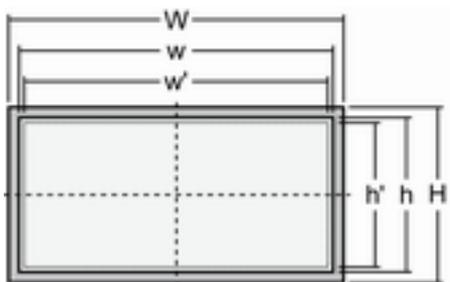

Fig. 11: Cutout schematic
1. ➤ Cut out the panel according to the dimensions in Fig. 11.